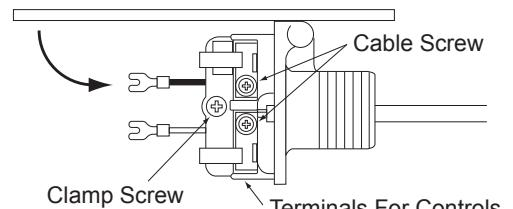

Fig.2
- 9) To access Cable Screws rotate the Quick Cable Connector 90° counter clock wise. (Fig.2)
- 10) Insert wire cable through the Cable Access Hole so that it can be accessed from the back. (Fig.2)